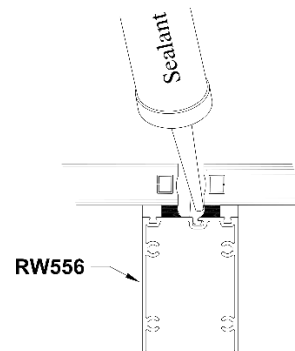

Figure 56:
- 16.5.4 Apply structural silicone to Horizontals, ensuring the glazing cavity is completely filled to the **SP451** spacer gasket. Tool flush with edge of glass. Reference *Figure 56*